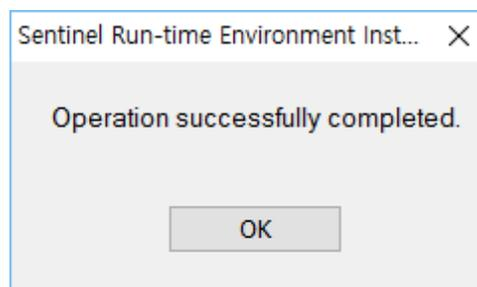

Figure 2.8 Dongle Driver Installation Complete
13. If the dongle driver is installed successfully, a message box appears as shown in Figure 2.8.